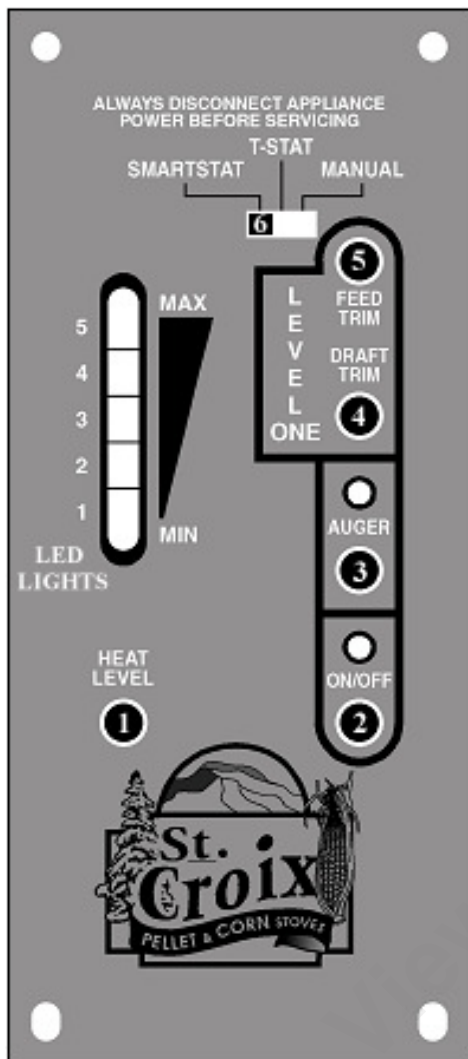

Figure 2
The Prescott Series is approved to burn a mixture of pellets and corn (maximum 50% corn). The Thermostat Switch should be set to the Manual position. (*See Fig. 2 on page 5*) Operation of the stove doesn't change when burning a mixture of pellets and corn. The burn pot will need to be cleaned on a daily basis, using the "Pot Scraper Tool" shown in figure 5 on page 9. Use the Pot Scraper Tool to remove any clinkers that build up because of the corn when needed. For more information, read the Daily, Periodic and Yearly Maintenance section towards the back of this manual.
A closer look at the Control Board on page 5, figure 2 will explain how the board works. There are five buttons labeled 1 through 5, a slide switch labeled 6 and a LED Light bar with 5 Heat Settings. **The LED Light bar is also used during the Diagnostic process, see page 6 and 7 for more details.**
The buttons on the board function as follows: *(Refer to Figure 2. The touch pad buttons and Slide Switch are labeled with the white numbers 1 through 6)*
**Lighting Your Stove.** (Refer to Figure 2)
**Shutting The Stove Off** (*Refer to Figure 2*)
1. Press the On/Off switch (2) once; the lights will go off and the fire will go out in a few minutes. The board essentially goes into "Safety shutdown".
**Diagnostic Features of the Control Board** - The #2 LED and the #3 LED lights on the LED Light bar as show in Figure 2 will flash to give a diagnostic code to help in diagnosing problems that may occur.
The **Proof of Fire** switch. This switch will sense the temperature of the Exhaust rising during start up. If the Exhaust temperature does not reach 110 degrees F, or if during use the temperature drops below 110 degrees F, the Stove will go into "**Internal Alarm**" and the Auger will quit feeding fuel. Once the stove completes the safety shutdown, the #3 LED will start blinking. (*See Figure 2 on Page 5 and point 3 on page 15*)
The **High Limit** switch. This sensor will sense if the unit reaches temperatures that are too high for normal operation. If this happens the Auger will quit feeding and the #2 and #3 LED lights will flash simultaneously. (See Figure 2 on Page 5 and point 4 on page 16)
The **Vacuum** Switch - For the stove to operate, the Firebox needs to be sealed. During the first 30 seconds after the stove has been turned on the Control Board will check if the switch senses negative pressure (Vacuum) in the Firebox of the stove. If there is no negative pressure, the stove will shut down and the #2 LED will start blinking. (See Figure 2 on Page 5 and point 2 on page 15).